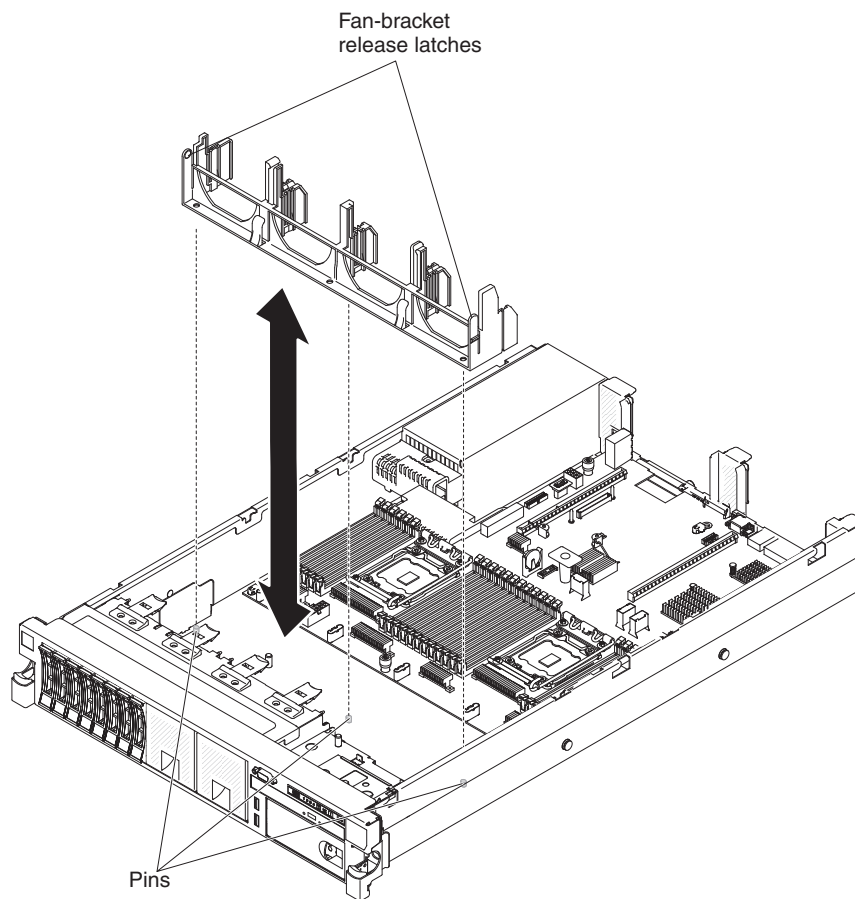

Figure 181. Removing the fan bracket
2. Press the fan-bracket release latches toward each other and lift the fan bracket out of the server, as shown in Figure 181 on page 221.